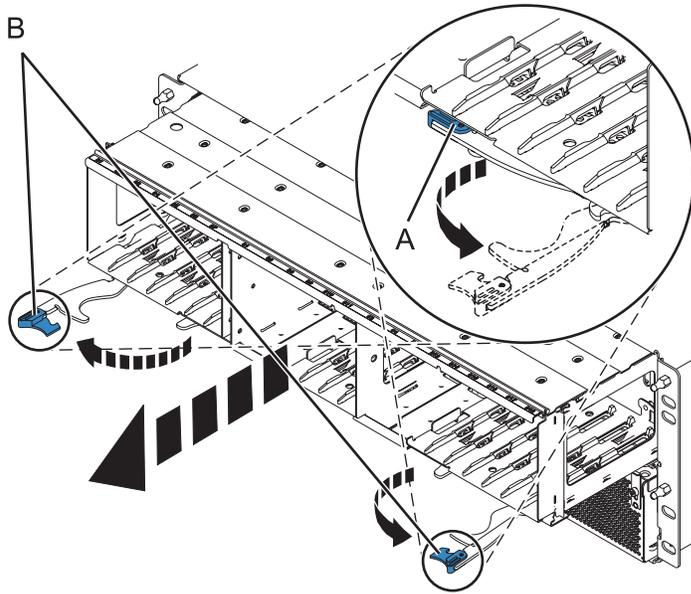

Figure 77. Removing the backplane from the enclosure
6. Remove the backplane as shown in Figure 77 on page 99.